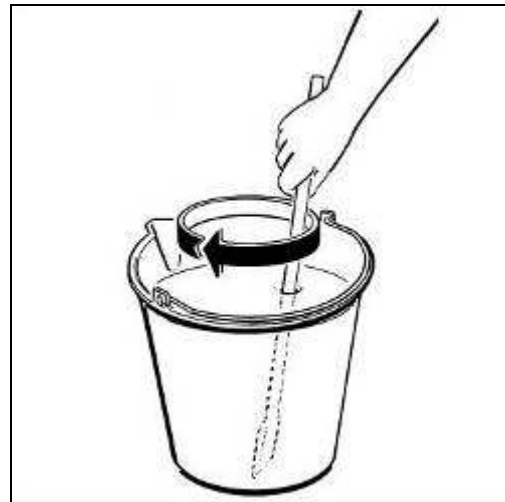

Fig. 4
- Dilute and mix the product in a separate container according to the manufacturer's instructions (see fig.4).